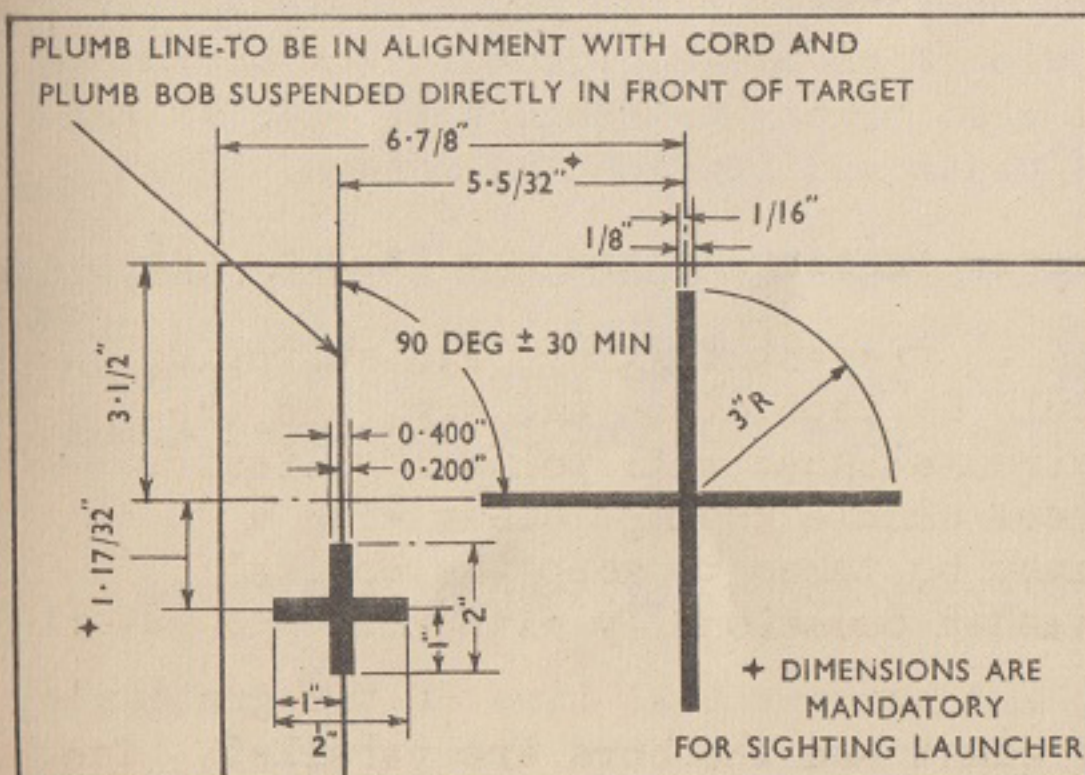

Fig. 28 Sight Testing Board
45.1. Using the sight testing board (Fig.28)
NOTE. - The bore plugs and sight testing board will be made locally. The dimensions are shown at Figs. 28 and 29. Bore plugs can be made up from the wooden discs found in the rocket container.